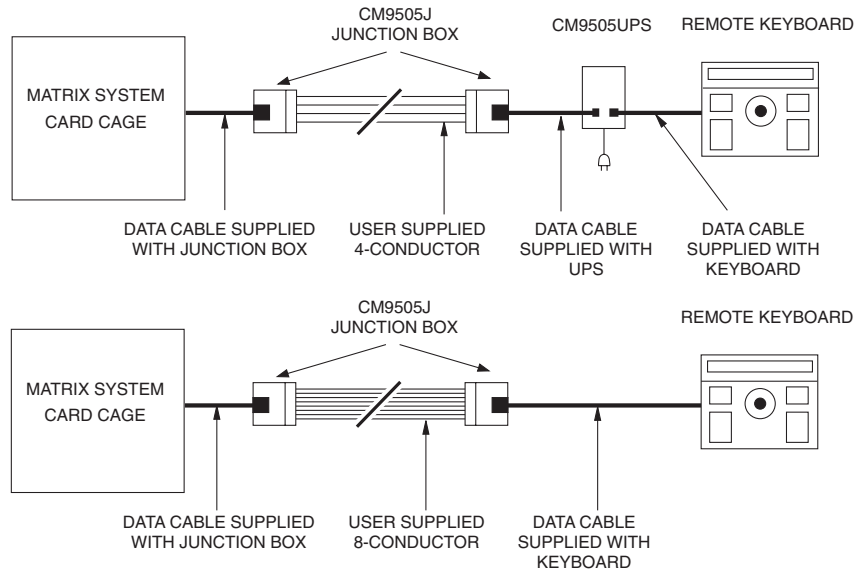

Figure 1. CM9505UPS/CM9505J Configuration
The junction box can be used by itself, but in most applications is used in conjunction with the power supply (refer to Figure 1). When used together, the junction box allows you to convert a keyboard cable into a set of cabling that can be run significantly greater distances by eliminating the keyboard power connections and only running the data. The CM9505UPS Universal Power Supply reintroduces the keyboard power at the keyboard end of the cabling. For distances over 2,000 feet (609.6 m), the CM9505UPS-422 Universal Power Supply with data repeater is recommended.
1. Connect either a four-conductor or eight-conductor cable (not supplied) between the junction boxes, depending on whether you will install a CM9505UPS Series power supply (refer to Figure 1).
2. Connect the 25-foot (7.6 m) cables (supplied) between the junction boxes, power supply, and matrix system card cage as applicable (refer to Figure 1).